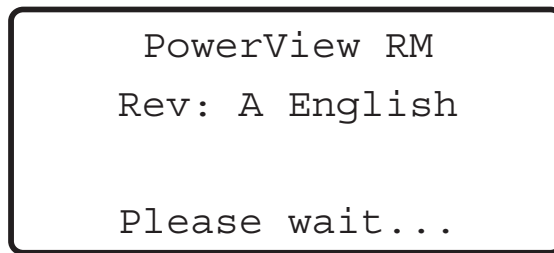

Figure 3: PowerView RM Startup Screen
- Figure 3: PowerView RM Startup Screen 4